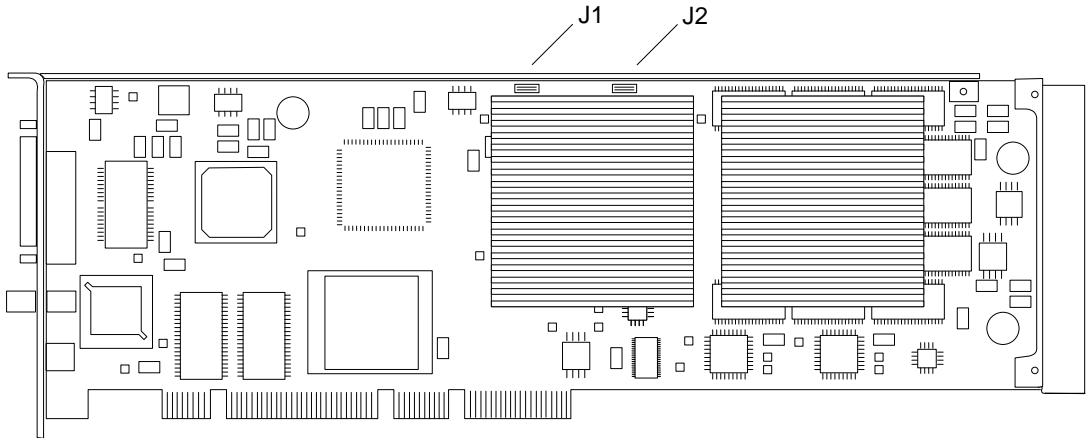

FIGURE A-3 Expert3D Multiview-In and Multiview-Out Connectors
3. **Connect the frame lock multiview cable to each Expert3D graphics card (FIGURE A-3).**